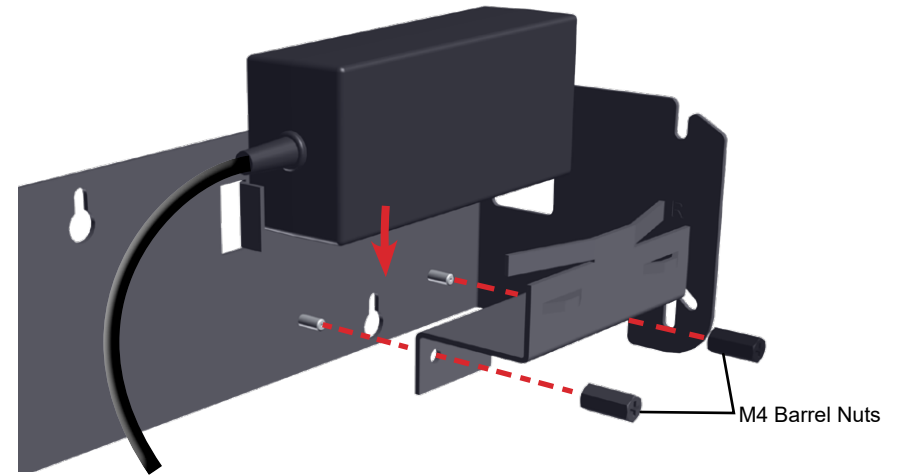

Figure 8a. Attach bracket and power supply
3. Attach the power supply bracket to the wall mount bracket with barrel nuts on the threaded studs loosely as shown. Insert the power supply with power cord outlet located against the side hole provided for power cord access and tighten the hardware (Figures 8a & 8b).